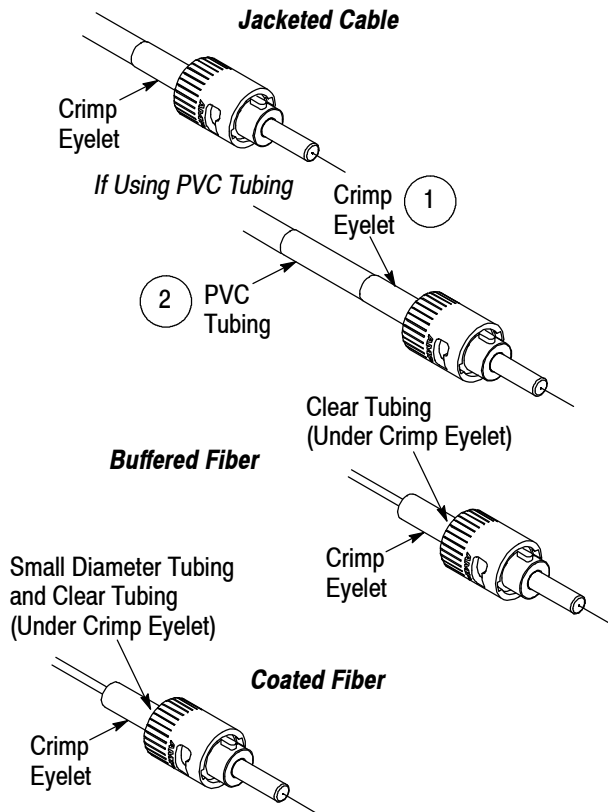

Figure 5
For buffered fiber, slide the clear tubing against the back of the connector, then slide the crimp eyelet over the clear tubing and onto the connector. See Figure 5.
For coated fiber, slide the small diameter tubing and clear tubing against the back of the connector, then slide the crimp eyelet over the clear tubing and onto the connector. See Figure 5.
7. For jacketed cable, slide the crimp eyelet toward the connector until it contacts the connector shoulder, trapping the strength members against the knurled end. If using the PVC tubing, slide it under the crimp eyelet until it bottoms. See Figure 5.